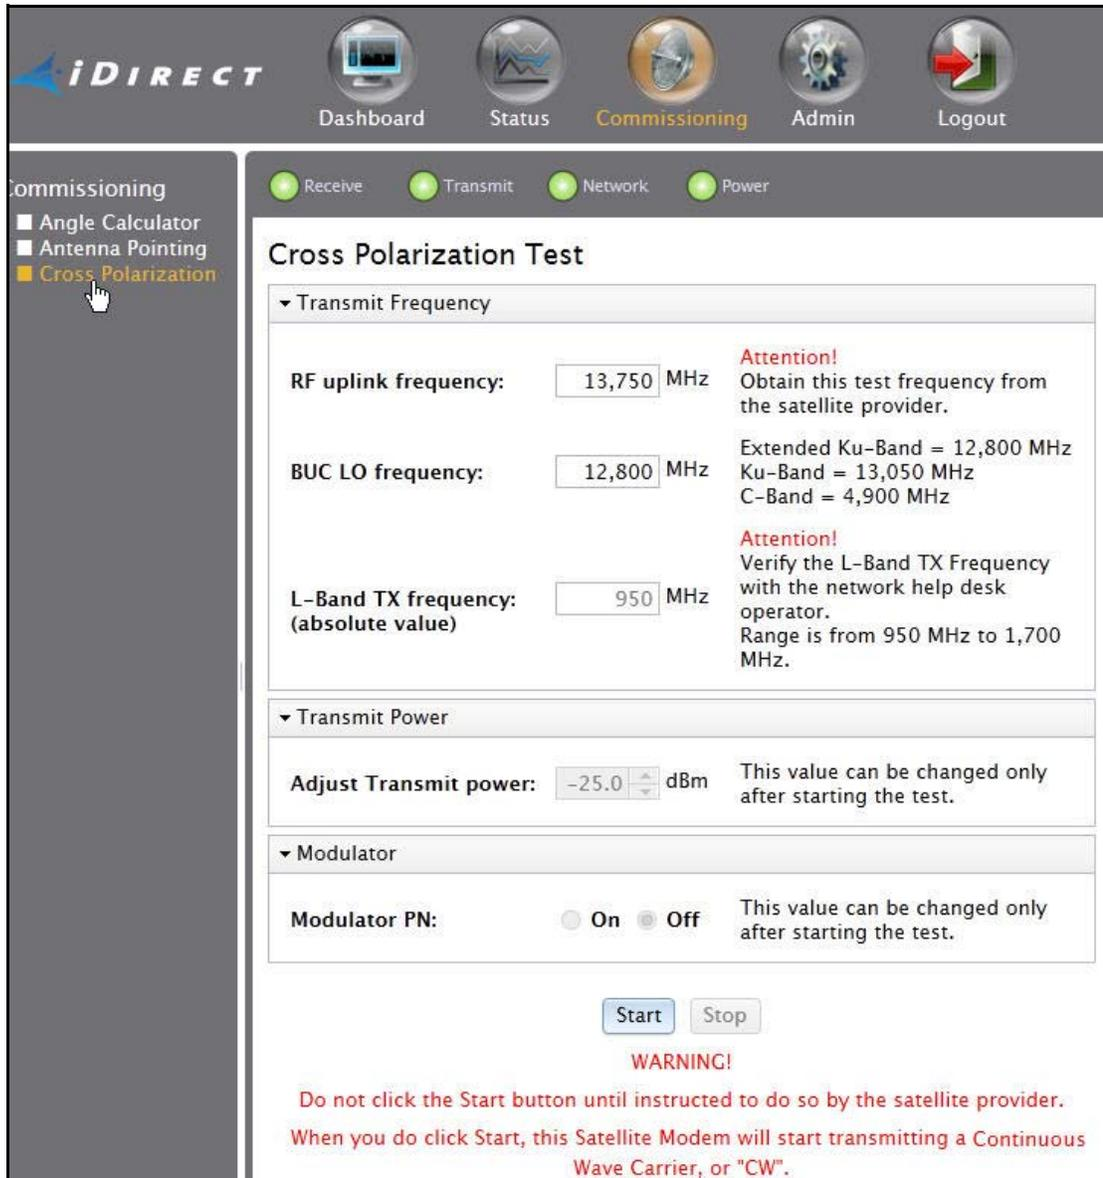

Figure 42. Evolution X1 Cross Polarization Web Page
4. In RF Uplink Frequency in iSite (Figure 41) or on the Web page (Figure 42), type the test frequency.
1. When instructed by the Satellite Provider, click the Start CW button in iSite (Figure 41) or the Start button in Web iSite (Figure 42). This will program the Satellite Router with the calculated L-band frequency and begin transmitting the CW carrier.
1. On the iSite Cross Polarization dialog box (Figure 41 on page 49) or the Evolution X1 Web iSite Cross Polarization page (Figure 42 on page 50), and with the Network Operator observing the CW carrier, increase the transmit power of the carrier in the Adjust Transmit Power drop-down box by 1 dBm increments.